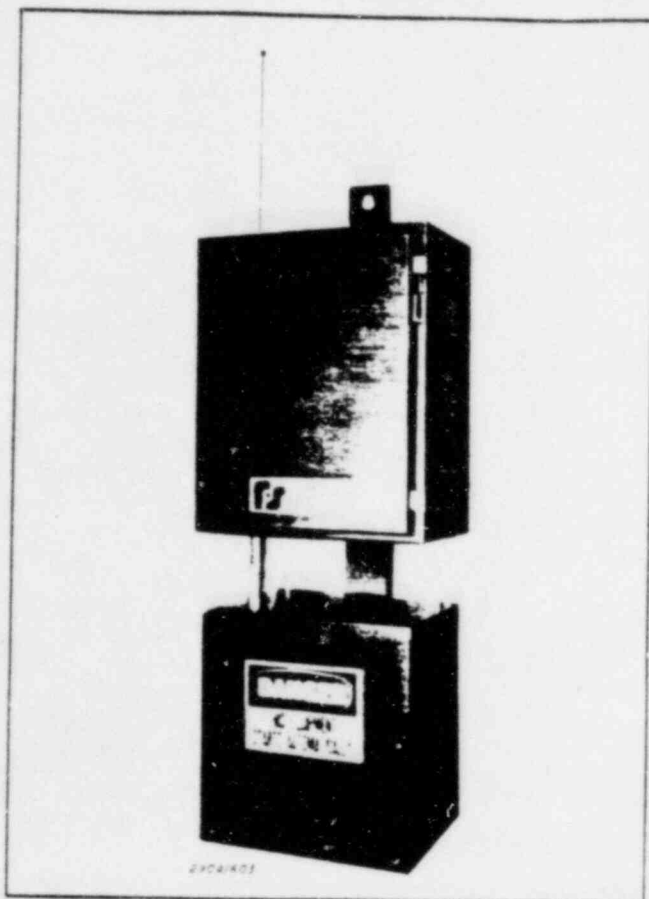

Figure 1-1. Model EOWS Control Unit and Battery Box.
The Control Unit consists of two cabinets, channel mounted for ease of installation (see figure 1-1). The upper cabinet (NEMA 4 enclosure) houses all the necessary electronics and controls for producing and amplifying up to seven signals (six standard plus one optional) and public address (PA). It also contains a diagnostic testing circuit that allows system checkout without alarming the public, a command verification digital counter, signal length timer, automatic battery charger, manual siren controls, automatic speaker incrementing which automatically positions the speaker to the next zone after completion of a transmission and the optional Federal Siratrol radio control for remote activation of the siren. The Federal Siratrol is the subject of separate instructions. The tone generator circuitry (Control Module) and amplifier (Amplifier Module) are all modularly constructed for easy removal without disconnecting a large number of wires.